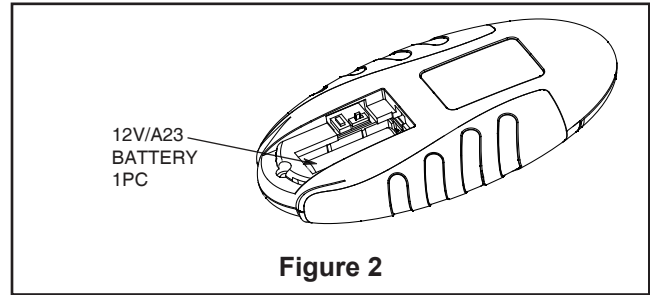

Figure 2
2. Remove the hairpin clip and clevis pin from the bottom of the downrod. Retain the pin and clip for reinstallation in Step 4 (Figure 2).
1. Securely attach the hanger bracket to the outlet box using the outlet box screws and washers supplied with the outlet box (Figure 2).
1. Slide the receiver unit into the open end of the hanger bracket (Figure 2).
2. Securely attach and tighten the canopy screw cover over the shoulder screws in the hanger bracket utilizing the keyslot twist-lock feature (Figure 2).
2. Secure the blade holders to the motor support using the 1/4-20 x 14 mm screws through the holes located on the side of the motor support (Figure 2).
2. To make fan operational, install 12-volt 23 A battery in hand-held remote transmitter, (if not using for long periods of time, remove battery to prevent damage to transmitter). Store the remote away from excessive heat or humidity (Figure 2).